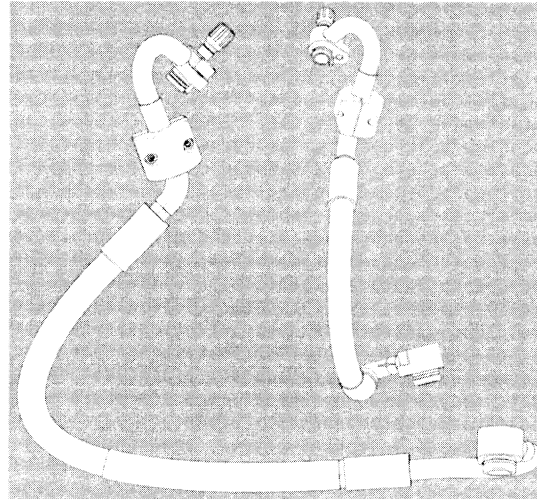

Figure 5. Balance weight position on low side line.
4. Install the balance weight (part number 4G0513621A) to the line in the position shown in the illustration (Figure 5).